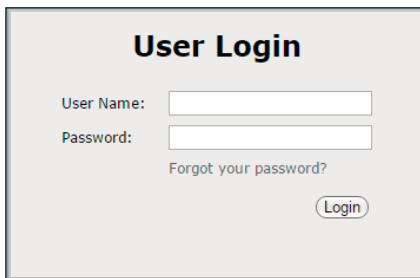

Figure 2
3. A User Login window, (Figure 2) will appear. There are two available user names, **ucllock** and **sclock**, which represent the user and service access levels. The user security level allows access to everything but the Configuration Tab.